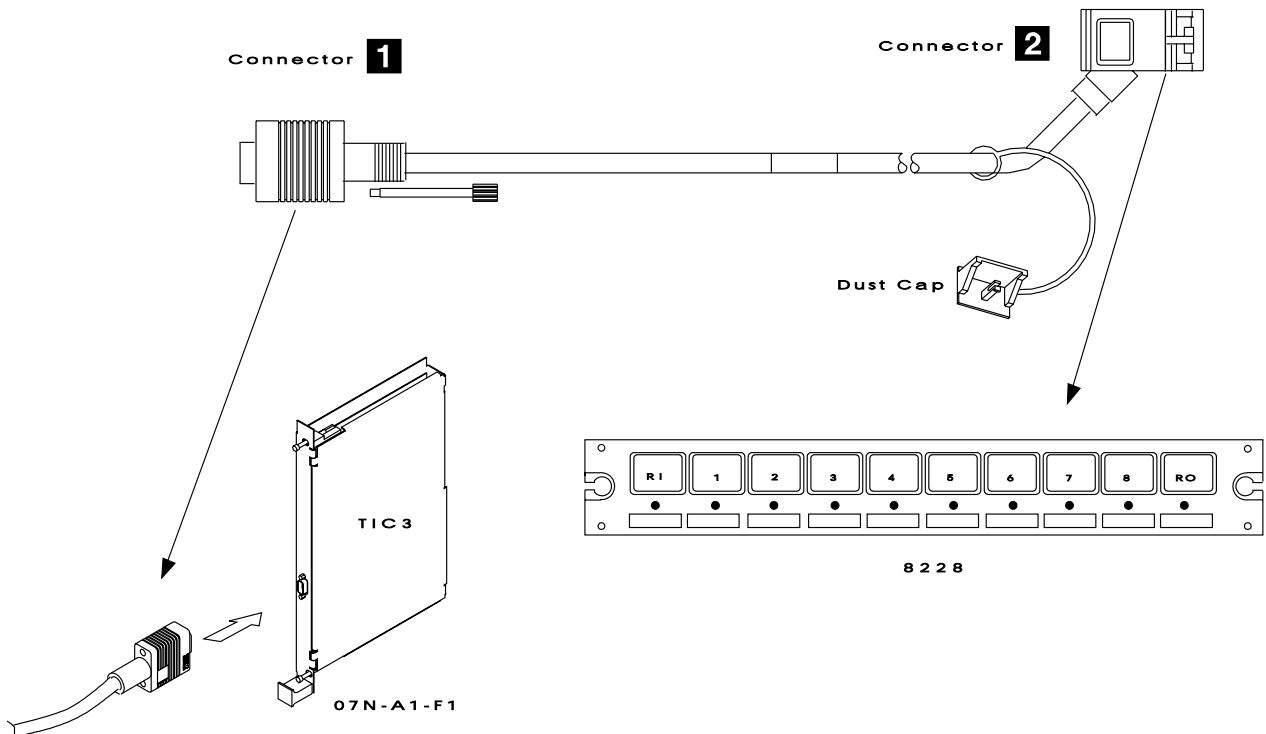

Figure 2-35. Connection of the 3746-900 to the LAN
- Step 4. \_\_\_ Plug **connector 2** to one of the 8228 LAN adapter plugs 1 to 8 (Refer to Figure 2-35 below).